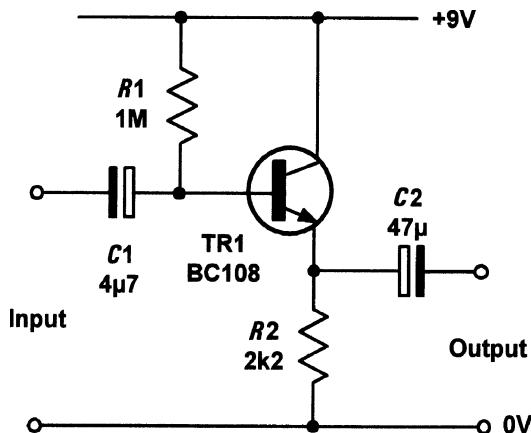
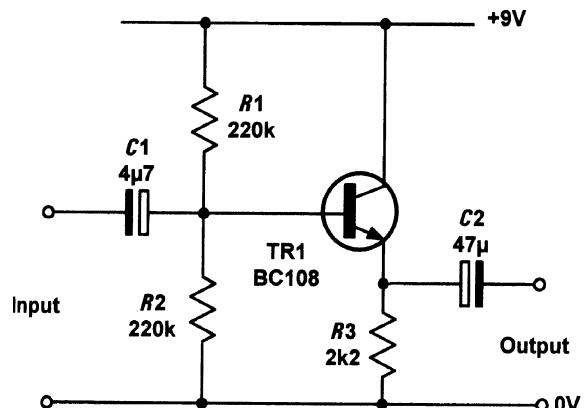

Figure 7.40 A practical emitter-follower stage
Figure 7.41 An improved emitter-follower stage
Two practical emitter-follower circuits are shown in Figs 7.40 and 7.41. These circuits offer a voltage gain of unity (1) but are ideal for matching a high resistance source to a low resistance load. It is important to note that the input resistance varies with the load connected to the output of the circuit (it is typically in the range $50\text{k}\Omega$ to $150\text{k}\Omega$). The input resistance can be calculated by multiplying h_{fe} by the effective resistance of R_2 in parallel with the load connected to the output terminals.
Figure 7.41 is an improved version of Fig. 7.40 in which the base current is derived from the potential divider formed by R_1 and R_2 . Note, however, that the input resistance is reduced since R_1 and R_2 effectively appear in parallel with the input. The input resistance of the stage is thus typically in the region of $40\text{k}\Omega$ to $70\text{k}\Omega$.